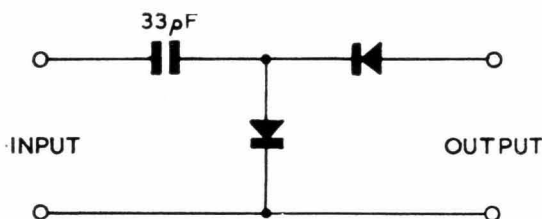

Fig 2: Peak-to-Peak Detector.
- (iv) A peak-to-peak detector as shown in Fig. 2.
- (1) Inject 5.5 Mc/s. at approximately 100 mV between the junction L28 and MR1 diode and earth (disconnecting the diode).
- (2) Connect the input of the peak-to-peak detector illustrated (Fig. 2) to CRT cathode, pin 7. Connect the output of the peak-to-peak detector to a 20,000